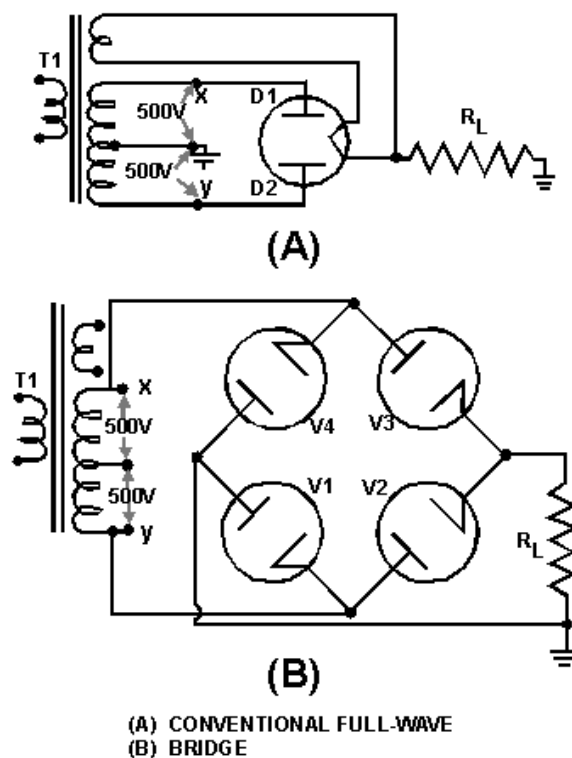

Figure 3-13.—Comparison of conventional full-wave and bridge rectifiers: A. Conventional full-wave circuit
One advantage of a bridge rectifier over a conventional full-wave rectifier is that with a given transformer, the bridge rectifier produces a voltage output that is nearly twice that of the conventional full-wave circuit. We can show this by assigning values to some of the components as shown in figure 3-13, views (A) and (B). Assume that the same transformer is used in both circuits. The peak voltage developed between points X and Y is 1,000 volts in both circuits. In the conventional full-wave circuit,